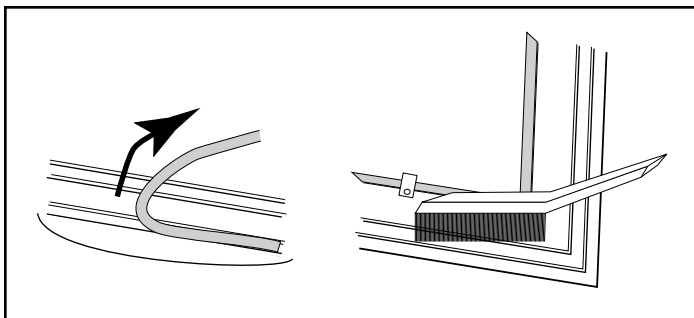

Figure 46 - Remove gasket then clean channel with wire brush.
1. Remove the existing gasket by grasping an end and pulling firmly. (Figure 46)
2. Use a wire brush or the tip of a screwdriver to clean the channel of any remaining cement or bits of gasket. Remove stubborn deposits of cement with a cold chisel if necessary. (Figure 46)